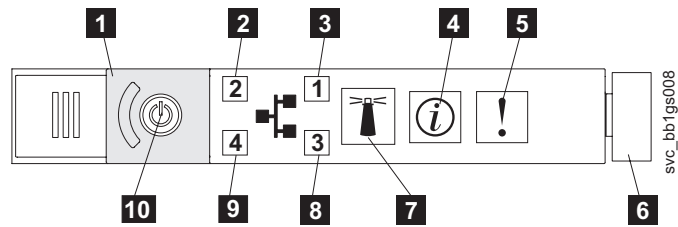

Figure 95. SAN Volume Controller 2145-CF8 operator-information panel
1. **Is the Error LED, shown in Figure 95 on page 407, on the SAN Volume Controller 2145-CF8 operator-information panel on or flashing?**